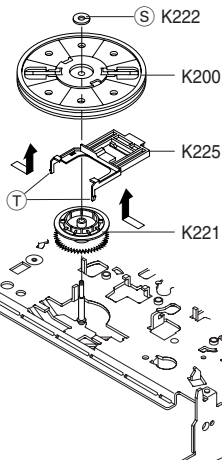

Fig. 15
- Remove the lock washer (S) (Fig. 15).
- Remove the pulley (K200, Fig. 15).
- Release the locking lugs (T) (Fig. 15) then remove the gear drive (K221).
- Otherwise check, clean or replace if necessary the pulley (K200, Fig. 15) and the reel belt (G542, Fig. 2).